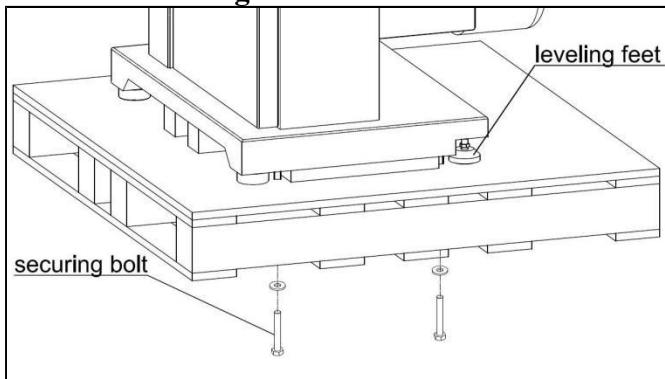

Fig. 6-1
1. As shown in Fig. 6-1, remove the four securing bolts from underneath the pallet.
1. As shown in Fig. 6-1, remove the four mounting bolts from underneath the pallet.